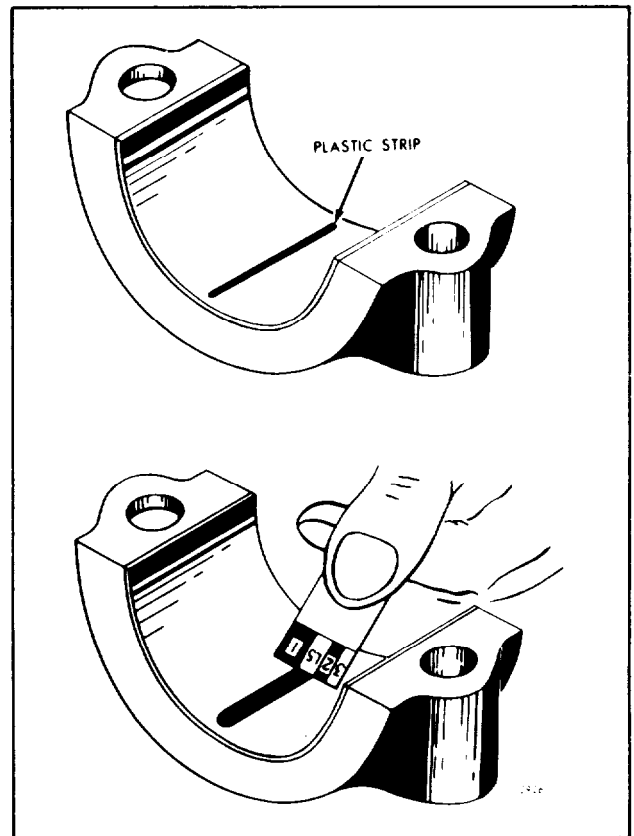

Fig. 1 Using Plastic Strip to Measure Bearing-to-Crankshaft Clearance
2. Place a piece of the plastic strip the full width of the bearing shell, about 1/4" off center (Fig. 1).
(Fig. 1). The number within the graduation on the envelope indicates the bearing clearance in thousandths of an inch. Taper may be indicated when one end of the flattened plastic strip is wider than the other. Measure each end of the plastic; the difference between the readings is the approximate amount of taper.